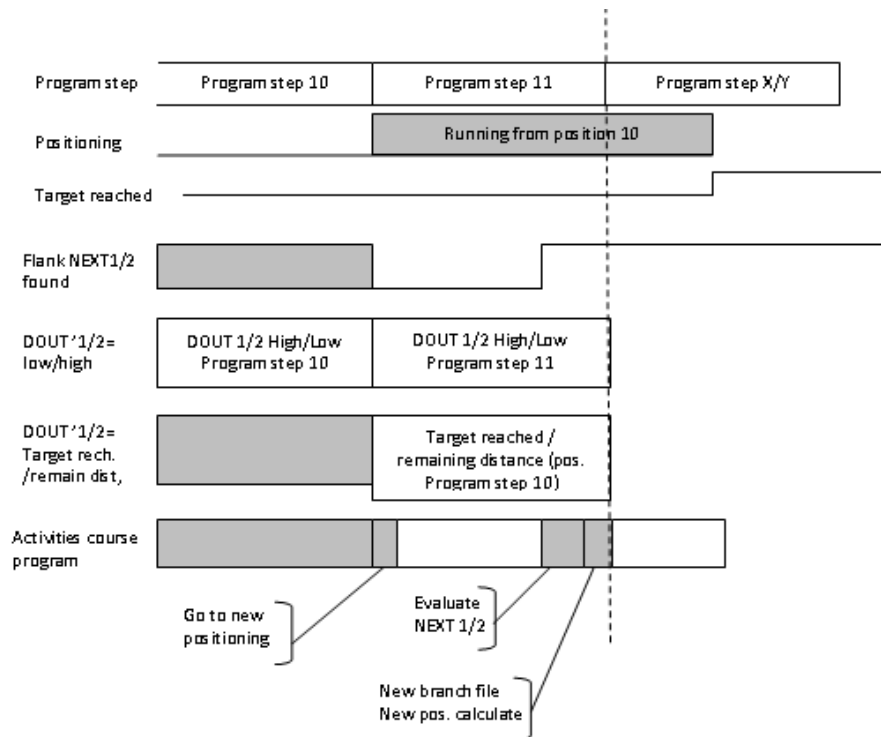

Figure 22: Time diagram branch line
In Figure 22 you can see positioning starts in program step 10. With start positioning (10) the course program changes in the following step.